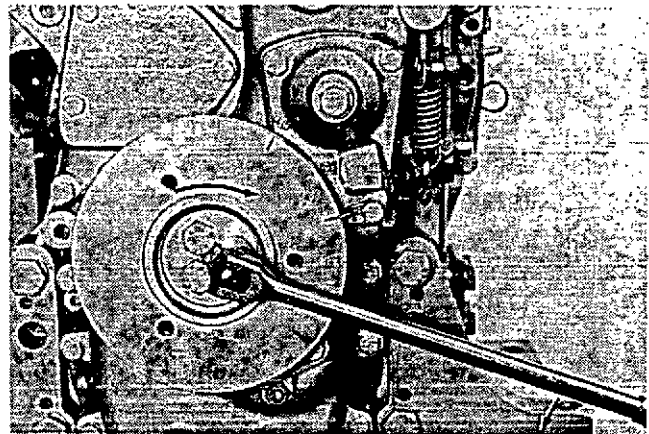

Figure 3
- h. Rotate the crankshaft clockwise until the piston again LIGHTLY contacts the valve. Using the same reference pointer, mark the front crankshaft pulley. See Figure 3. (On D 302-1, mark the flywheel.)